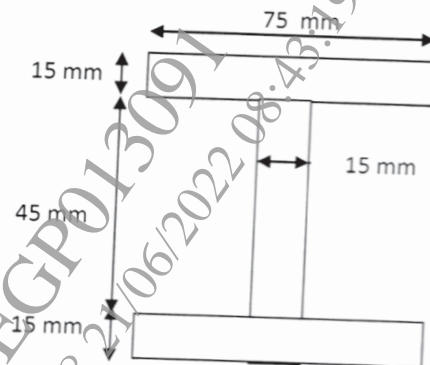

Figure 3
- b) The beam section as shown in figure 3, is subjected to bending moment of 8.75 kNm. Determine [9]